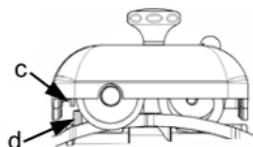

Fig. 26
4. Lower the cap, the pin (c) should snap onto the self-locking collar (d) (fig. 26);